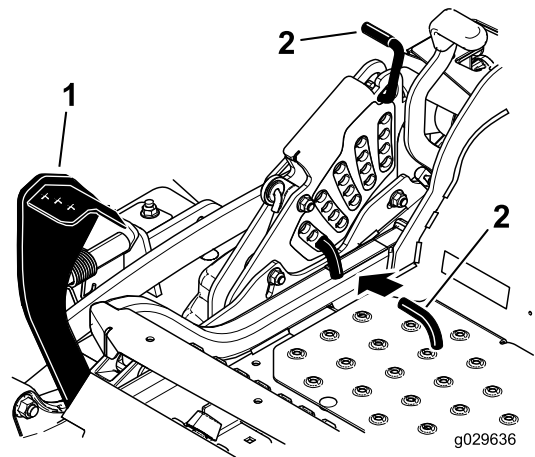

Figure 91
5. Push the deck-lift pedal all the way forward and the deck will latch at the 14 cm (5-1/2 inch) transport position (Figure 91).